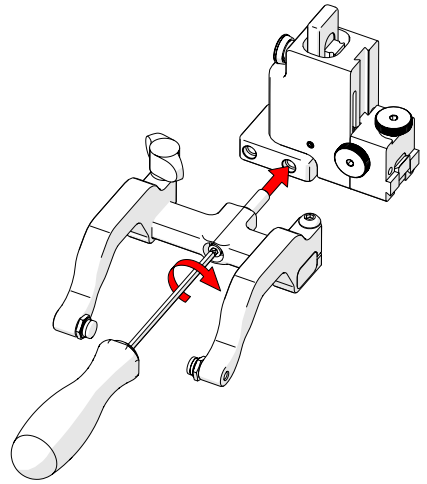

Fig. 168 - Screw into threaded hole
7. Screw the yoke to the probe holder (Fig. 168).